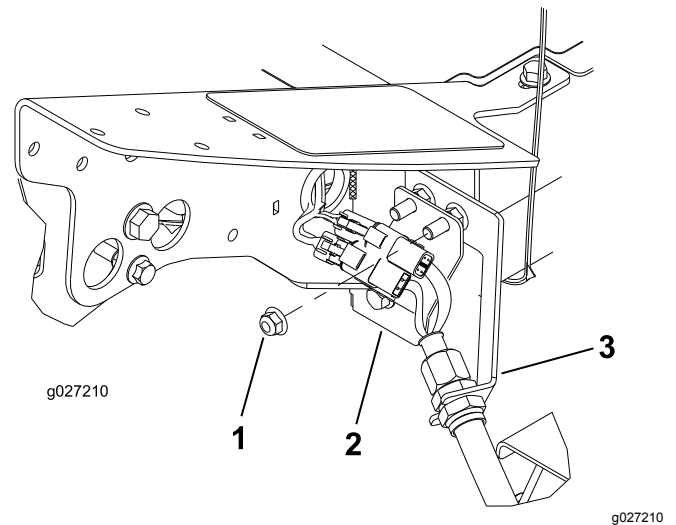

Figure 12
1. On the front left corner of the frame (no. 4 cutting unit location), remove the extra flange nut on the bolt securing the bulkhead bracket to the machine (Figure 12).
3. Insert the connector plate onto the bulkhead-mounting bolts with the connectors positioned as shown in Figure 12.